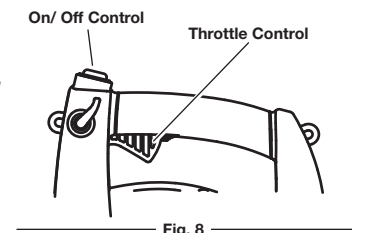

Fig. 8
NOTE: The unit should be started in idle. Do not squeeze the trigger until step 8 (Fig. 8).
2. Press and hold the On/Off switch in the OFF (O) position until the unit comes to a complete stop (Fig. 8).